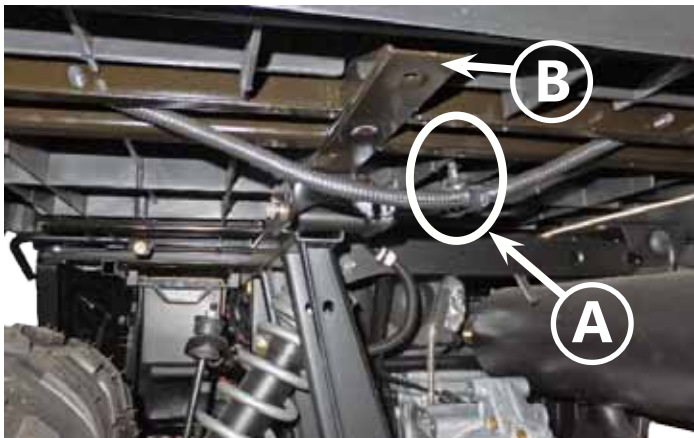

Figure 2. - Drivers Side.
3. Pull out two retaining clips (A) for the wiring harness; they are located towards the inside of the frame tubes labeled (B) in Figure 2. **NOTE:** Pull out only the ones closest to each of the frame tubes labeled (B)!